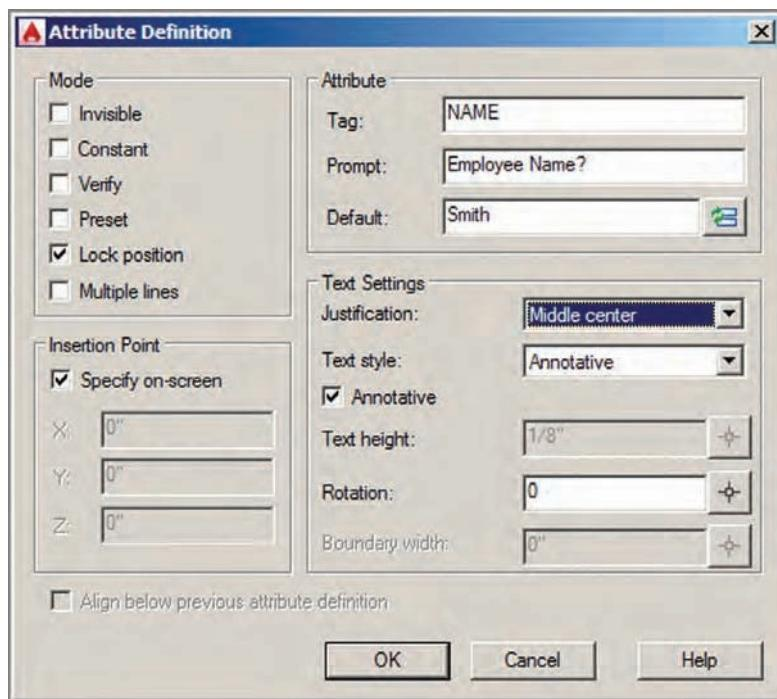

FIGURE 15.9 Specifying the properties of an attribute definition
- Expand the Block panel and click the Define Attributes tool to open the Attribute Definition dialog box. Type **NAME** as the tag, **Employee Name?** as the prompt, and **Smith** as the default. Set Justification to Middle Center and Text Style to Annotative (see Figure 15.9).